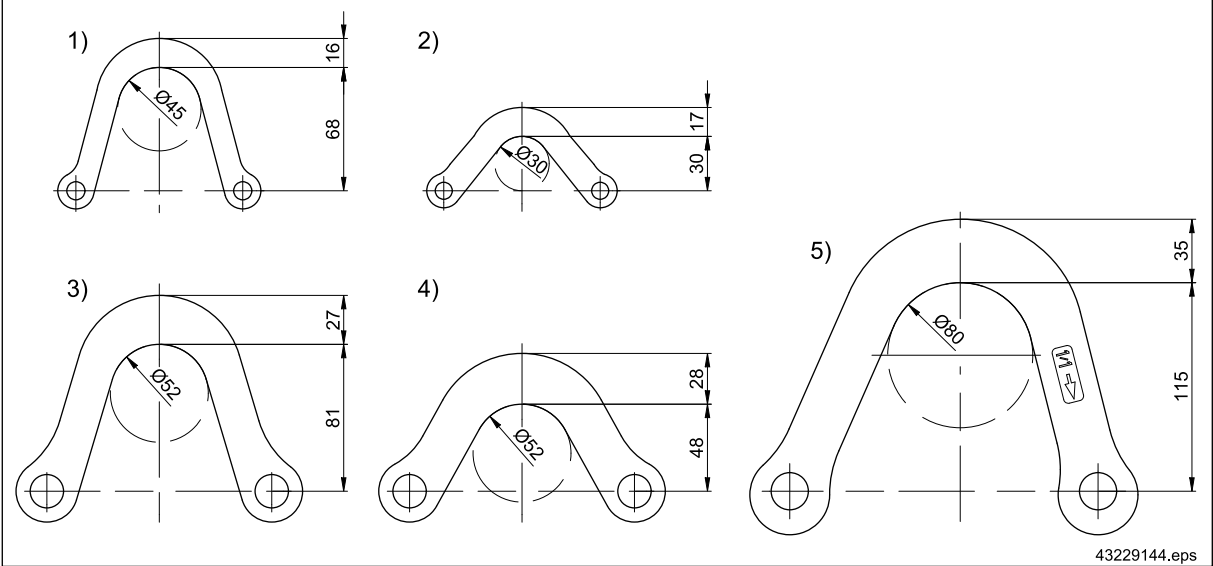

Fig. 16
See ⇒ Fig. 16, Page 36
³⁵⁾ Suspension bracket for KBK III = contour as for (5) in ⇒ Fig. 16, Page 36